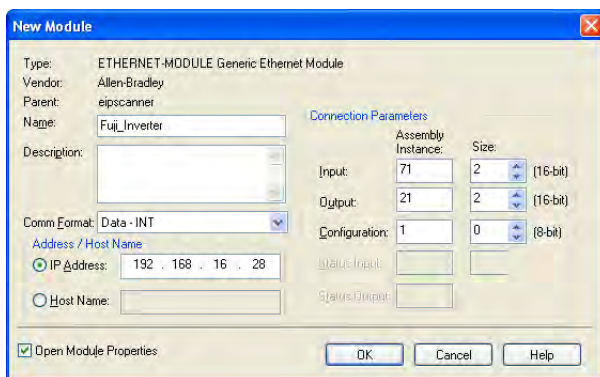

Figure 88: AC/DC Drive Profile Generic Ethernet Module Configuration
- 1) Complete all the steps in section 8.2.4. Please note that the Assembly Input Instance must be changed to 71 and the Assembly Output Instance must be changed to 21. Refer to Figure 88.